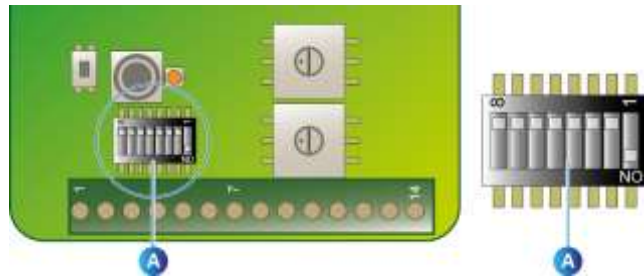

Figure 48: micro switch configuration on the *OLCT 80*.
- Position the microswitches as shown below (Figure 48, A) **on the wireless card of each *OLCT 80*:**